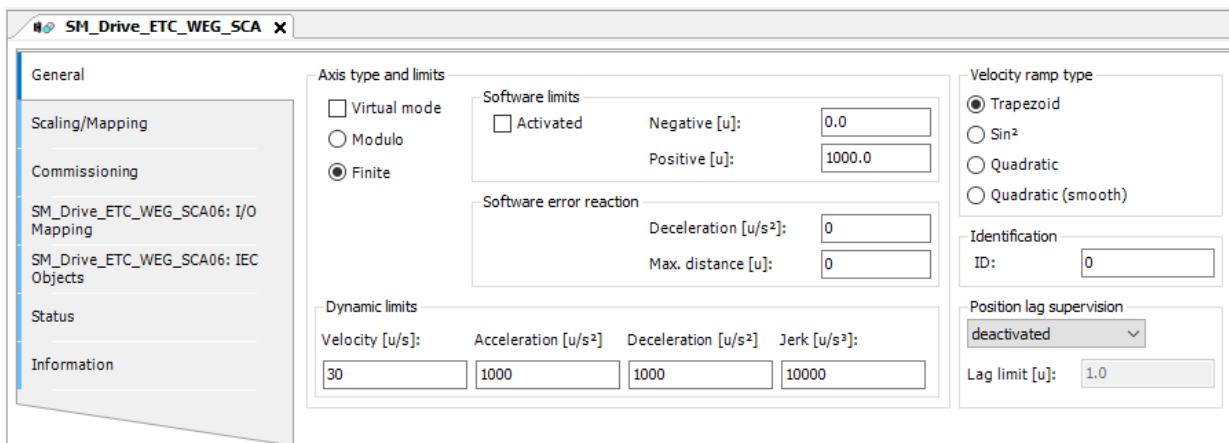

Figure 2.8: SM_Drive_ETC_WEG_SCA default configuration.
- Configure the page as shown in Figure 2.8.